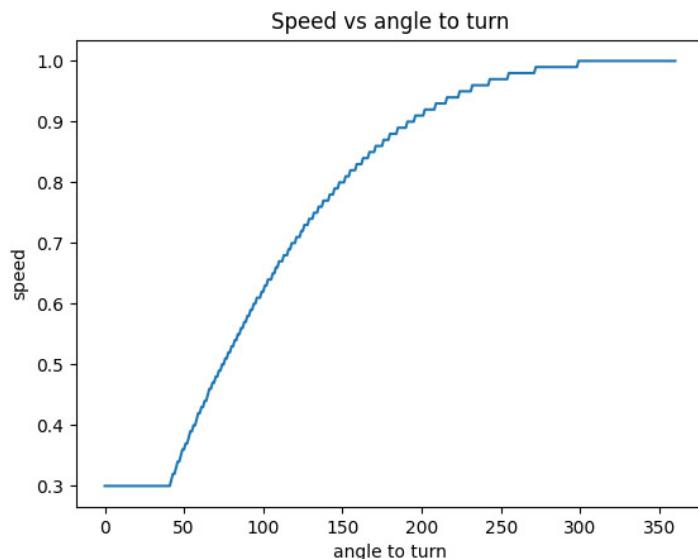

Figure 53: Turning speed per angle to turn chart
- Switched back to turning only by the angle provided by the gyro sensor, turning faster the greater the difference from the desired angle. However, we have improved this old method by using a new, more aggressive function (see Fig. 53) to determine the rotation speed from the angle difference. This is achieved with the following line of code (both the minimum rotation speed of 0.3 and the increasing factor of 3 here will probably be improved with more testing over time)
With this new function, shown in Fig. 53, the robot turns much faster in dead ends as well as when navigating the evacuation zone, which is still to be done.